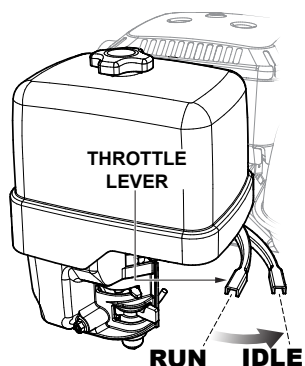
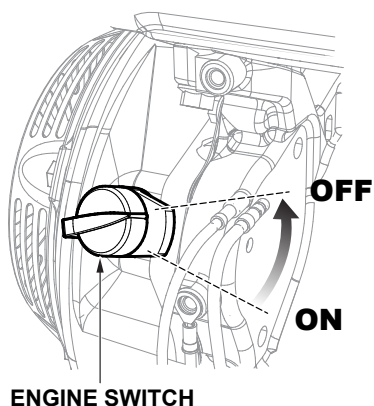

Figure 14. Engine Throttle Lever (Idle)
Figure 15. Engine ON/OFF Switch (OFF)
1. Place the engine throttle lever in the **IDLE** position (Figure 14) and run the engine for three minutes at low speed.
2. After the engine cools, place the engine ON/OFF switch in the **OFF** position (Figure 15).
Quickly move the **engine throttle lever** to the **IDLE** position (Figure 14), then place the **engine ON/OFF switch** in the **OFF** position (Figure 15).